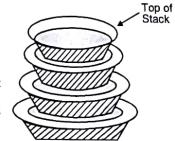

Fig. 14.1.1 : Stacked plates
- The microprocessor stores the information/data like stacking plates. Fig. 14.1.1 shows stacked plates. If we want to remove the first stack plate, then we have to remove all the plates above the first i.e. we have to remove the fourth plate, third plate, second plate and then finally the first plate. This indicates that the first plate pushed onto the stack is the last one to be popped from the stack. This operation is called as First In Last Out (FILO).
- The memory location that is currently pointed by the stack pointer is called as top of stack. As shown in Fig. 14.1.1 the 4th stacked plate represents top of stack.